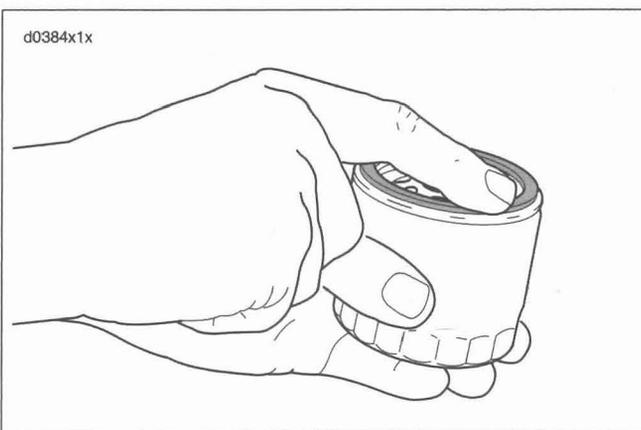

Figure 1-5. Lubing New Oil Filter
5. See Figure 1-5. Lube the gasket on **new** oil filter with engine oil and install **new** filter. Hand tighten oil filter 1/2 to 3/4 turn after gasket contacts filter mounting surface.